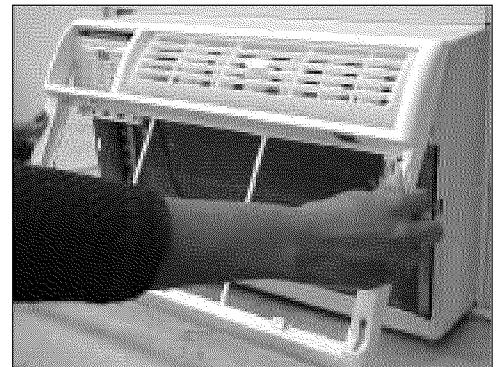

FIG. 1
- Position the top of the decorative front over the top flange of the case, and align the tabs with the slots in the case (Fig. 1).